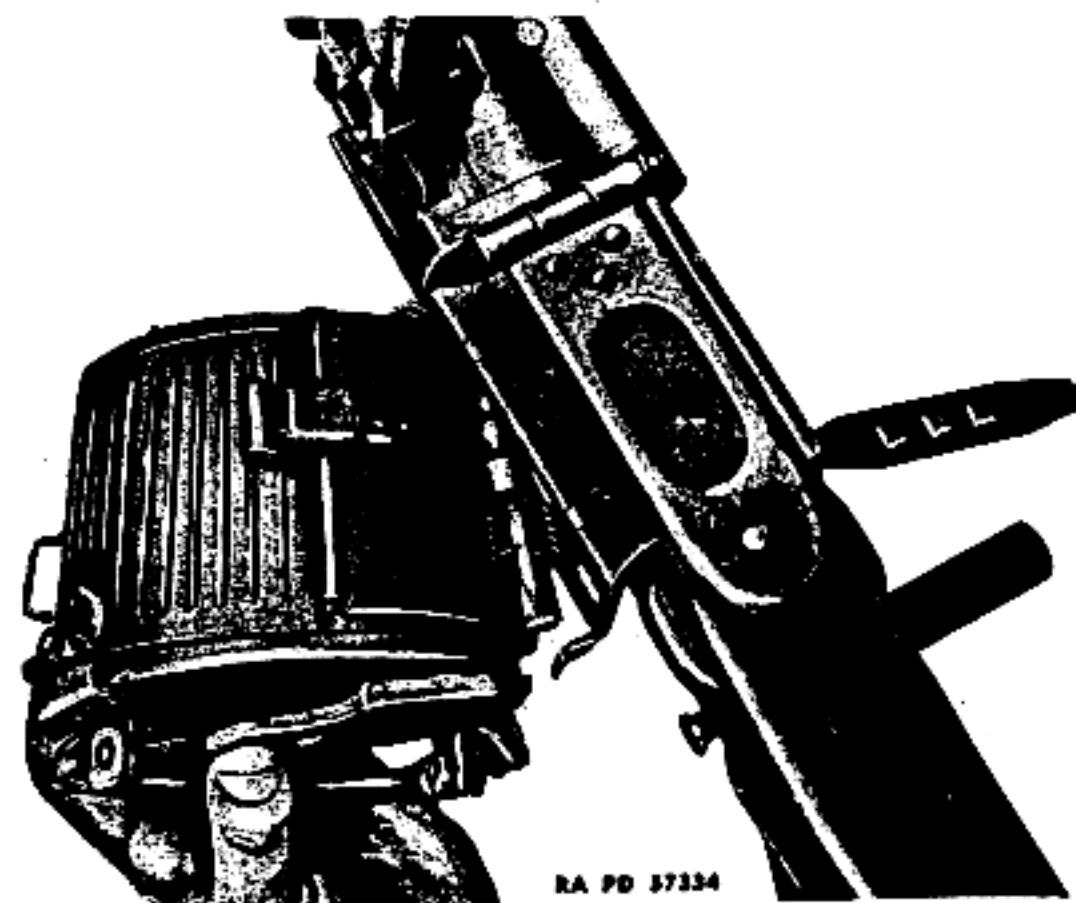

Figure 22 - Mounting Belt Drum Magazine
c. Loading the Machine Gun With a 50-round Belt Drum Magazine. See that the bolt is fully home and the safety set at FIRE (move safety forward to uncover letter "F," (fig. 17)). Take a fully loaded belt drum magazine (② fig. 13) and insert the leading tab into the feed opening on the left side of the gun. Attach the magazine to the front hook on the feed block (fig. 22), press the latch on the magazine, and secure it to the rear hook on the feed block. Pull the